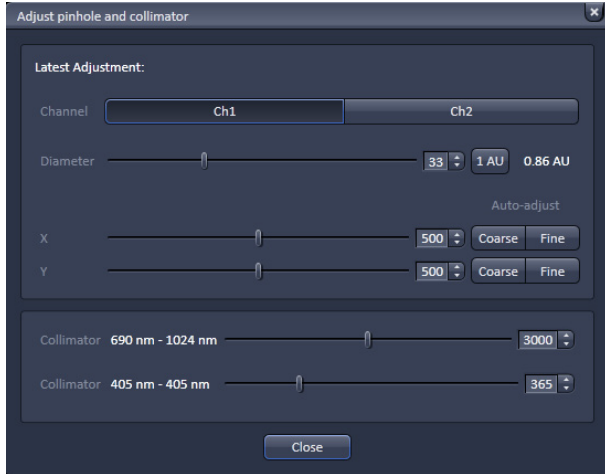

Fig. 244 Adjust Pinhole panel
- Click on the **Adjust Pinhole** tab to open the **Pinhole configuration** panel (Fig. 244). Click on **Close** to leave the panel.
You can set the pinhole diameter of the LSM using the Diameter slider, scroll arrows or the input box (Fig. 244). The display of the input box gives the diameter in μm . The Pinhole diameter in Airy units is calculated automatically and displayed beside the input box. The **1 AU** button allows you to set the pinhole size to 1 Airy unit by just clicking on it. Set the desired pinhole diameter using the slider, the scroll arrows or type into the input box.